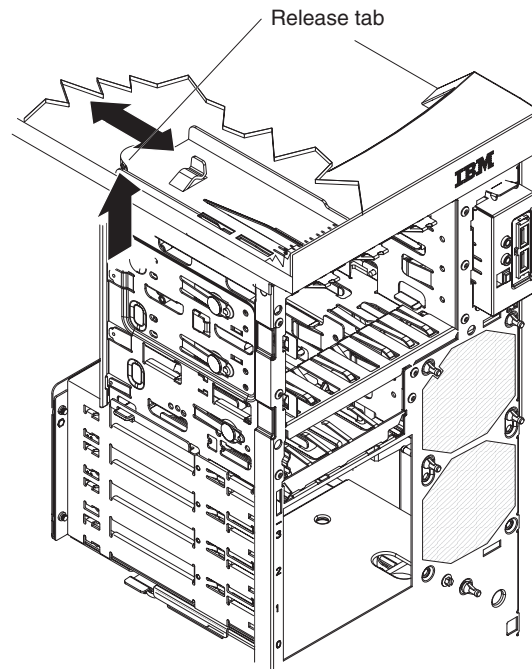

Figure 41. Removing the power switch/LED assembly
7. From inside the chassis, press inward on the power-switch release tab (see Figure 41).
1. From inside the chassis, push the power switch/LED assembly toward the front of the chassis until the assembly engages the power switch release tab and clicks into place (see Figure 41).